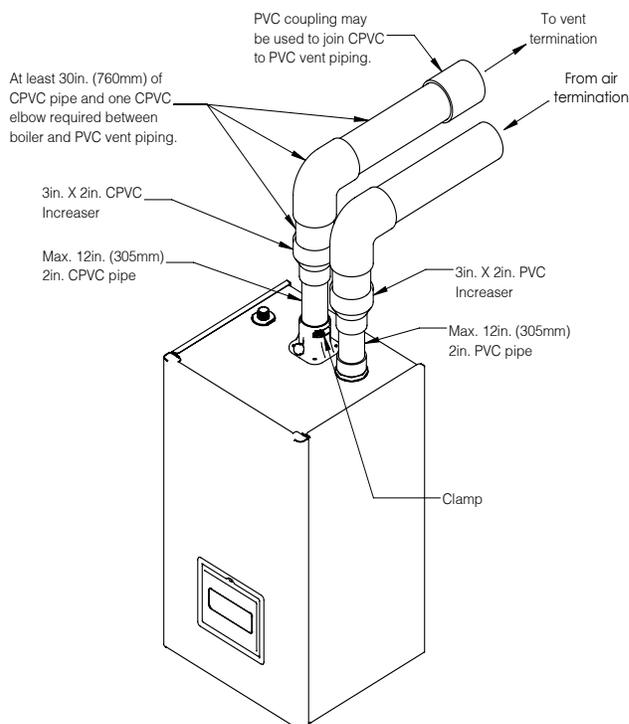

Figure 7-13: Near Boiler CPVC/PVC Venting with Increaser
- NOTICE:** Increaser must be installed in vertical section of pipe. See Figure 7-13.